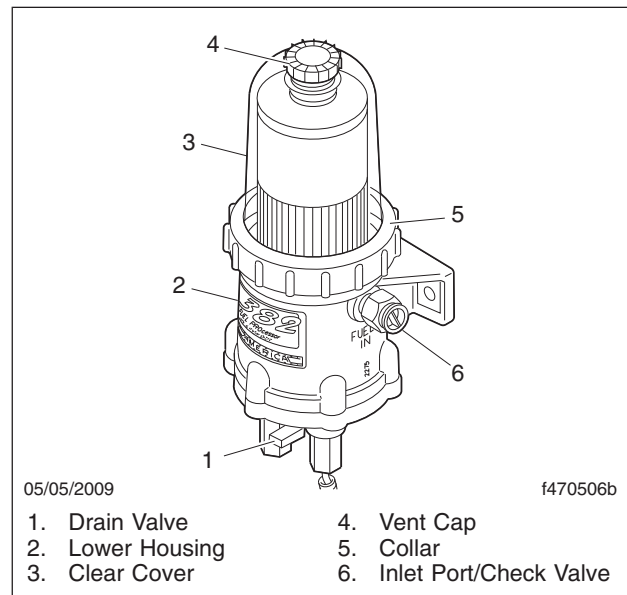

Fig. 2, DAVCO Fuel/Water Separator (Fuel Pro 382 Shown)
4. Remove the vent cap (Fig. 2, Item 4) and open the drain valve (Fig. 2, Item 1) to drain the fuel completely, then close the drain valve.
3. Remove the vent cap (Fig. 2, Item 4) and open the drain valve (Fig. 2, Item 1) to drain the fuel completely, then close the drain valve.